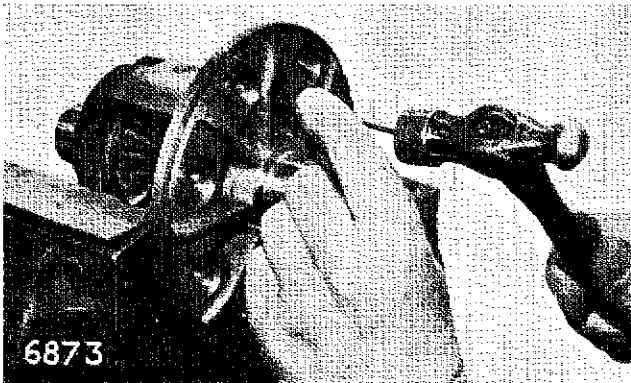

Fig. 36. Topping out cross pin locking peg
Tap out the pin (18) securing the differential cross pin (17) as shown in Fig. 36.